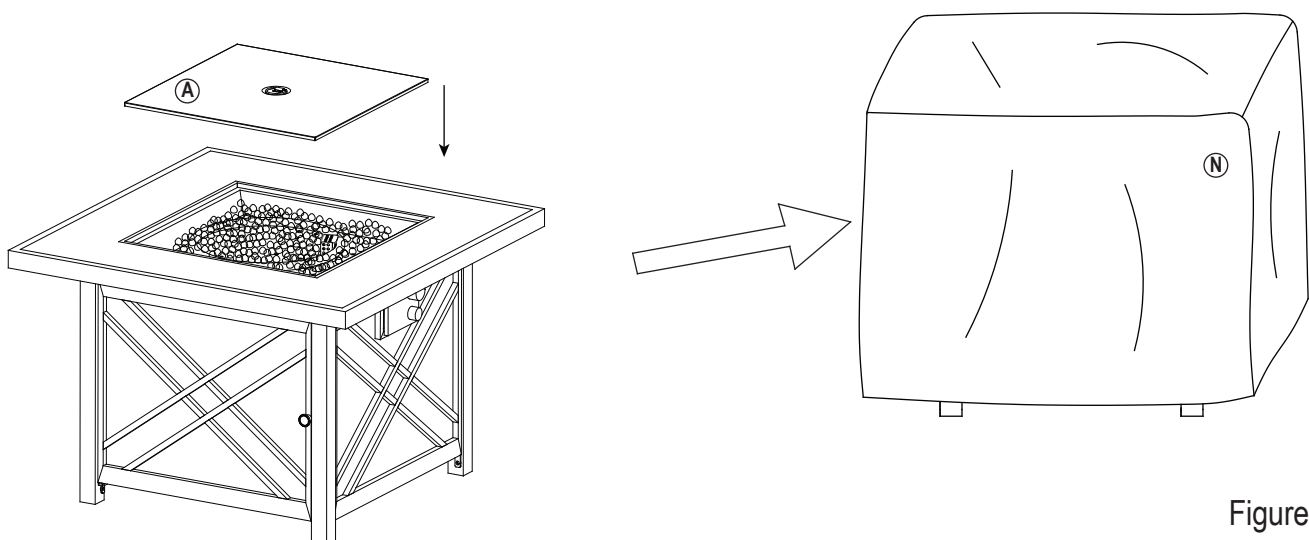

Figure 12
12. Place the lid (A) onto the fire bowl when not in use to protect it from the elements or when fire pit is cooled COMPLETELY after use. Cover the fire pit with weather cover (N) when not in use to protect it from the elements or when fire pit is cooled COMPLETELY after use (see Figure 12).